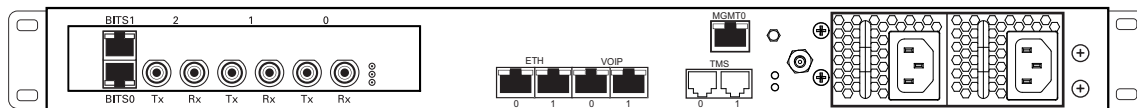

Figure 4.5 DS3 Interface to the PSTN
A TMG7800-DS3 with 3 sets of BNC connectors enables the connection to DS3 lines. See figure 4.5 on page 29.
1. Start with the Dual BNC port pair #0 (right-most) as shown in figure 4.5 on page 29. Connect one pair of BNC cables between this port and the DS3 line.